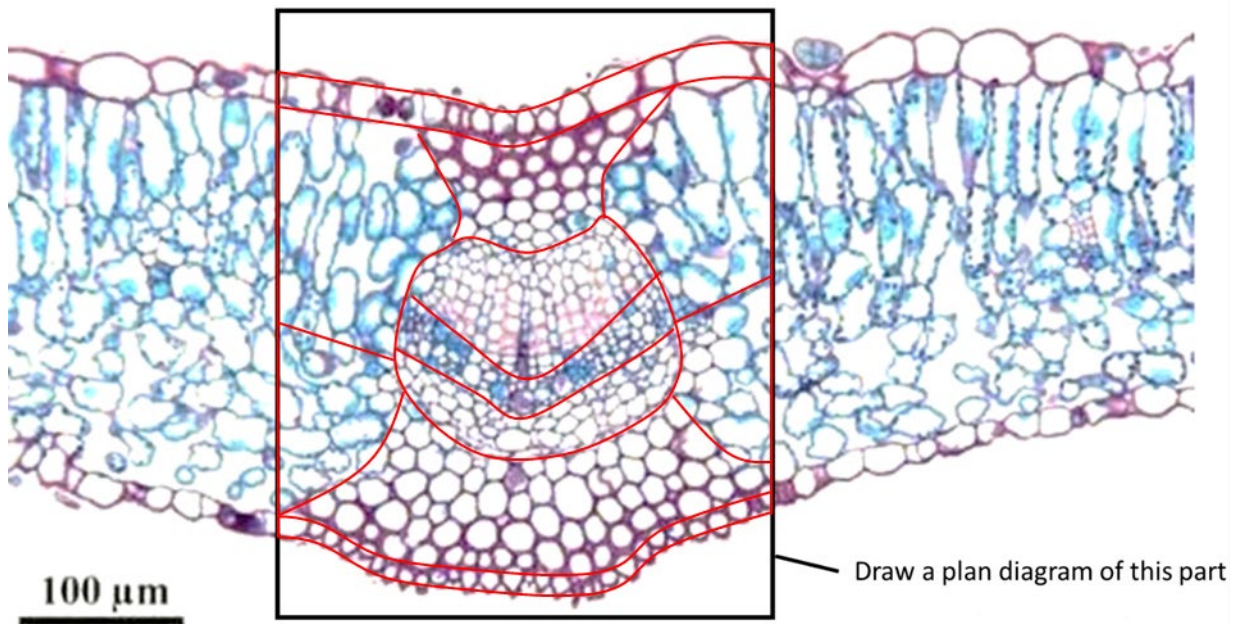

Fig 4.1
- 4 Fig 4.1 and 4.2 shows microscopic image of a stained transverse section through a leaf of a terrestrial plant.
- (a) Observe the different tissues in the region boxed out in Fig. 4.1.
Use the space provided to draw a large plan diagram of the part of the leaf boxed out in Fig. 4.1.